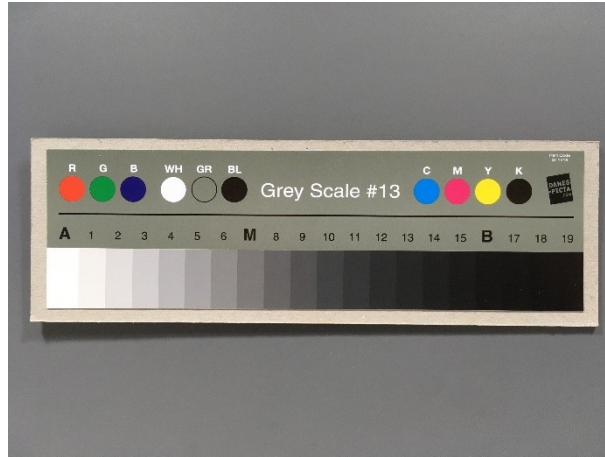

Fig. 4.4: Gray scale card diagram
Step 3. After optimizing the parameters of Gamma, LDCI, DCI and Dehaze, test the gray scale card under the lab light box D50 to ensure the gray scale is no less than 18. Fig. 4.4 is a gray scale card diagram.